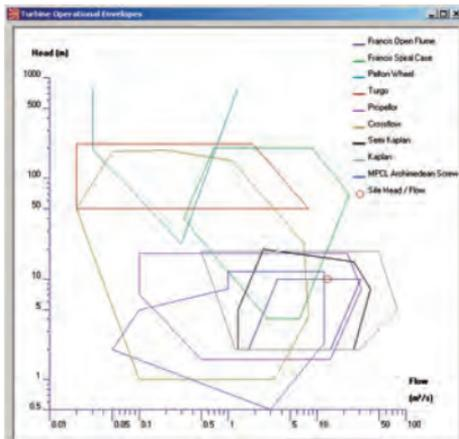

Figure 8.2 Turbine operational envelopes
- **Operating envelopes** These describe the head and flow conditions under which the turbines will operate. These can be viewed via the Plot Head / Flow button, see Figure 8.2.